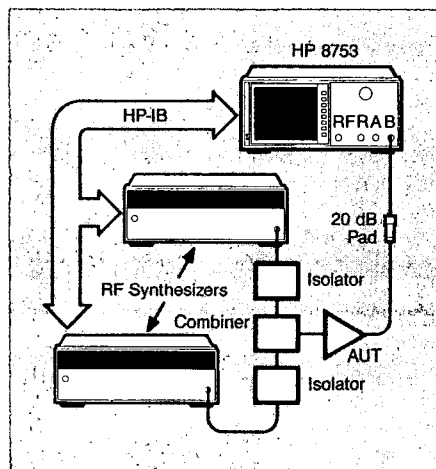

Figure 19. Two-tone third order intermodulation measurement setup.
The measurement setup is shown in Figure 19. The two synthesizers used were HP 8656Bs. Attenuators are used to ensure the individual fundamental power levels at the receiver input are below -20 dBm.
1. Connect the instruments as shown in Figure 19. Connect the external frequency references together to synchronize the measurement frequencies. Preset the HP 8753B.